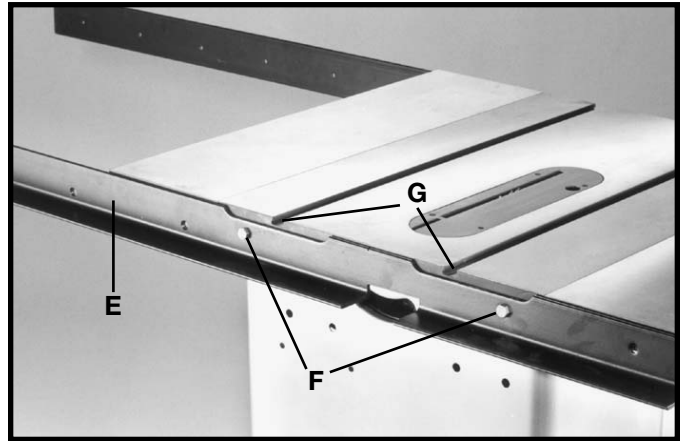

Fig. 14
3. Assemble rear rail (E) Fig. 14, to rear of saw table using the two 3/8-24 x 1-1/4" long hex head screws (F), 7/8" O.D. flat washers, and lockwashers as shown. NOTE: When mounting, the two screws (F) are threaded into the threaded holes in the saw table, as shown.
4. Make certain top edge of rail (E) Fig. 14 is below table surface and that top edge of cut-outs (G) are below miter gage slots before tightening screws (F).